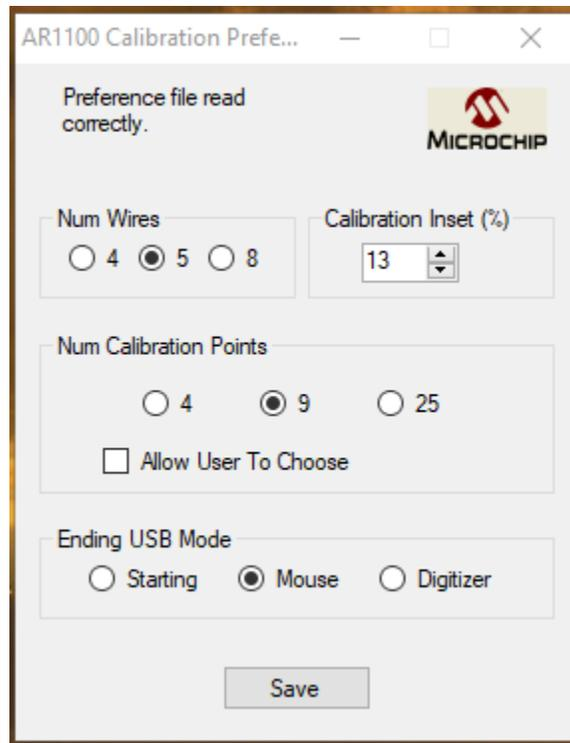

Figure 12: 9 point Calibration Configuration for 5-wire sensors
- Complete the preferences panel shown in Figure 12, changing “Num Wires” to match your sensor, and either 9-point or 25-point calibration, then save and close. Do not select Digitizer mode.